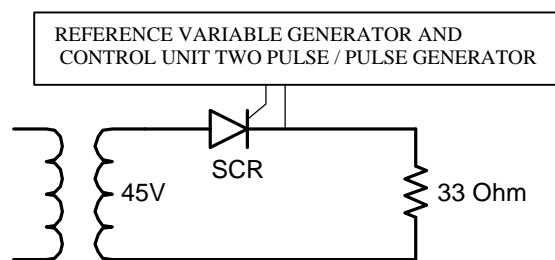
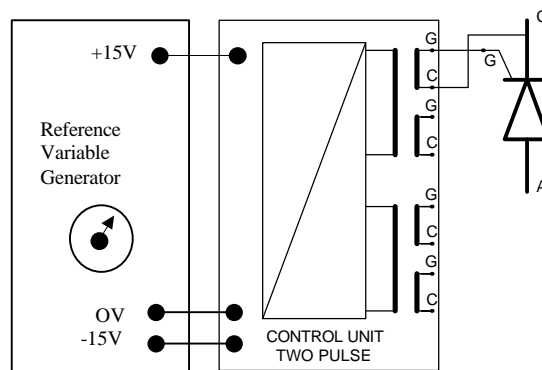

Figure 1
Figure A2: Connection of SCR with Control Unit Two Pulse and
i) The circuit for half-wave rectifier with R load (module no.735 09) is shown in Figure 1. The supply voltage is obtained from the Transformer (module no. 725 73), which is tapped at 45V rms. To turn on the SCR/Thyristor (module no. 735 03), the firing pulses from the Reference Variable Generator (module no. 734 02) and Control Unit Two Pulse/Pulse Generator (module no. 735 12) must be connected. Refer to Figure A2 for connection of the SCR with these two modules.
4. **CONTROL UNIT TWO PULSE / PULSE GENERATOR (735 12)** : This module generates and trigger the pulse signal. It contains input connection for DC voltage (+15V, 0V, -15V), output pulse signal connection and reference voltage connection (L1, N). This control unit, together with Reference Variable Generator is connected to the SCR/thyristor module shown in Figure A2 below.